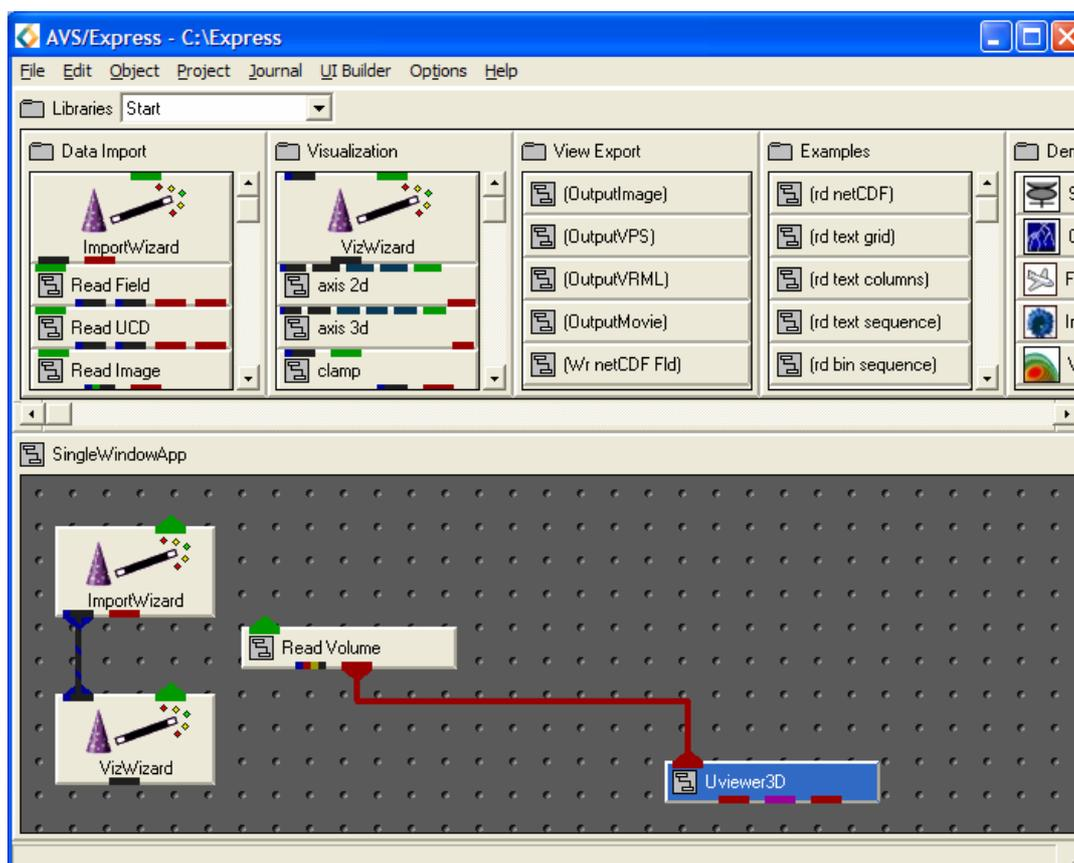

Figure C.10: Network Created by the data\_import\_wizard
- The network created by the Wizard that is being executed to produce the visualization can be seen in the Network Editor as shown in Figure C.10.